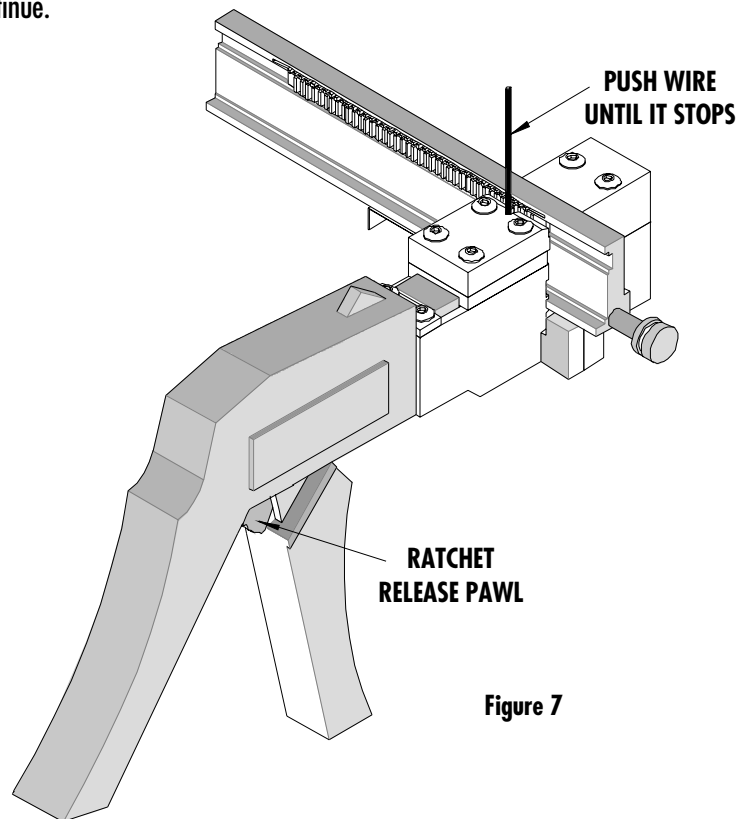

Figure 7
5. Place a wire into the wire slot and push down till it hits the wire stop. See Figure 7. This will determine the wire positioning in the terminal.